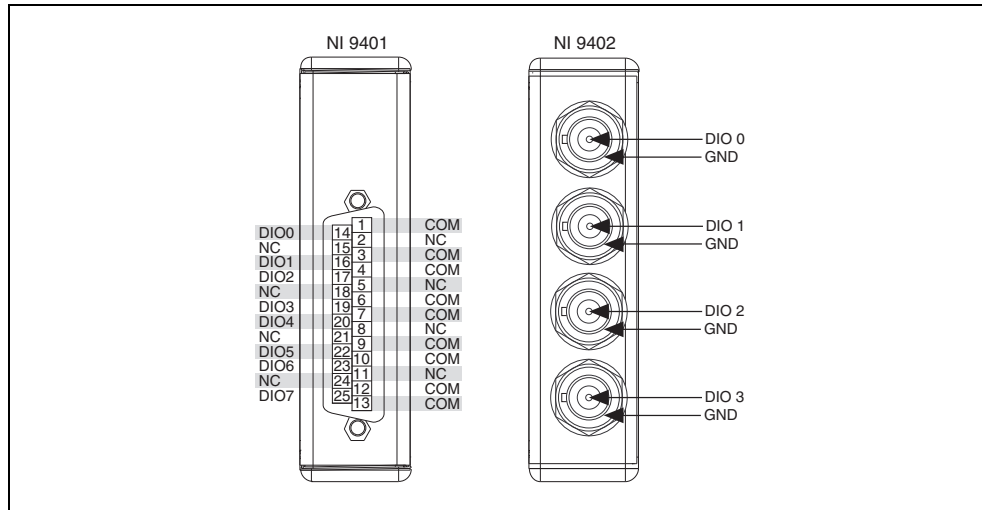

Figure 1. NI 9401 and NI 9402 Pin Assignments
1. Connect the counter to the C Series digital I/O module. Refer to Figure 1 for a connection diagram of the NI 9401 and NI 9402.